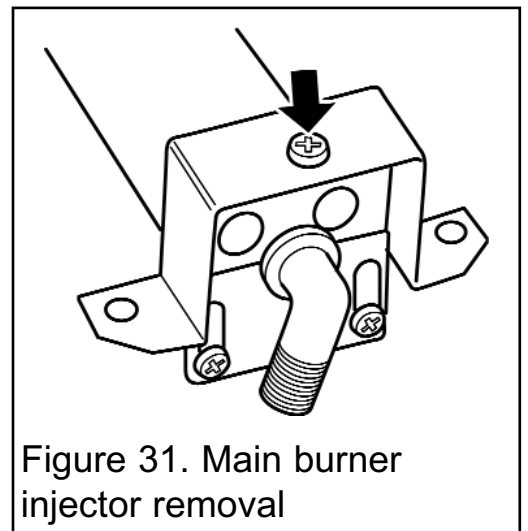

Figure 31. Main burner injector removal
2. Remove the burner clamping screw (See figure 31)